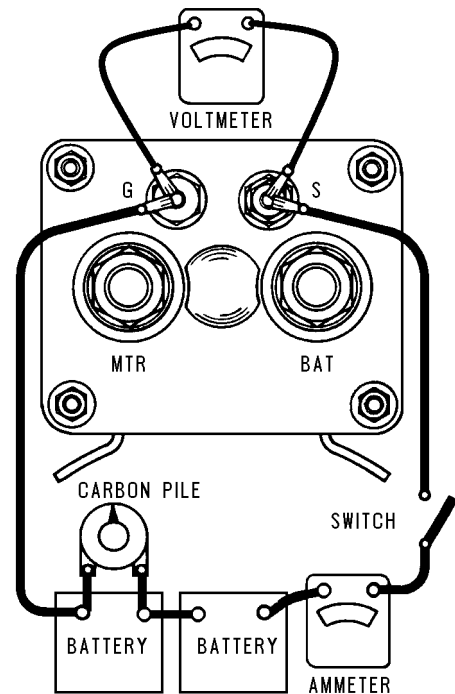

FIGURE 2-5. SOLENOID HOLD-IN WINDING TEST
1. With all leads disconnected from the solenoid, make test connections, as shown, to the solenoid, switch terminal, and to the second switch terminal G, to check the hold-in winding (Figure 2-5).